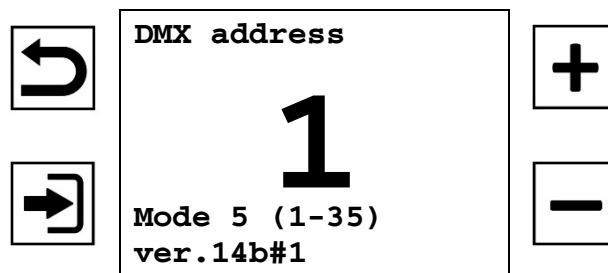

Figure 7. Main screen
When the fixture boots up, the control panel displays fixture information including firmware version and fixture hours before displaying the PCB reset status screen. After resetting, the panel displays the main screen. See Figure 7. The main screen displays the fixture's:
- DMX mode and channels occupied (in Figure 7, the fixture occupies DMX channels 1-35. Channel 36 is available for the next fixture on the DMX link)